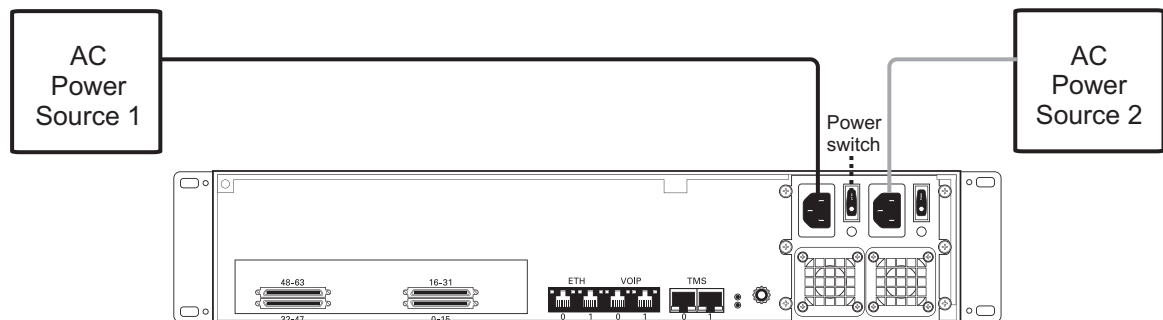

Figure 4.10 AC Power Connection
1. Connect an AC power cable between the AC connector of the 7800 Telecom Unit and an AC supply. See figure 4.10 on page 39.
Note If the 7800 Telecom Unit features a second power supply and it is not connected to an AC power source, press the green button located at the rear of the unit to disable the audible alarm. See figure 4.10 on page 39.